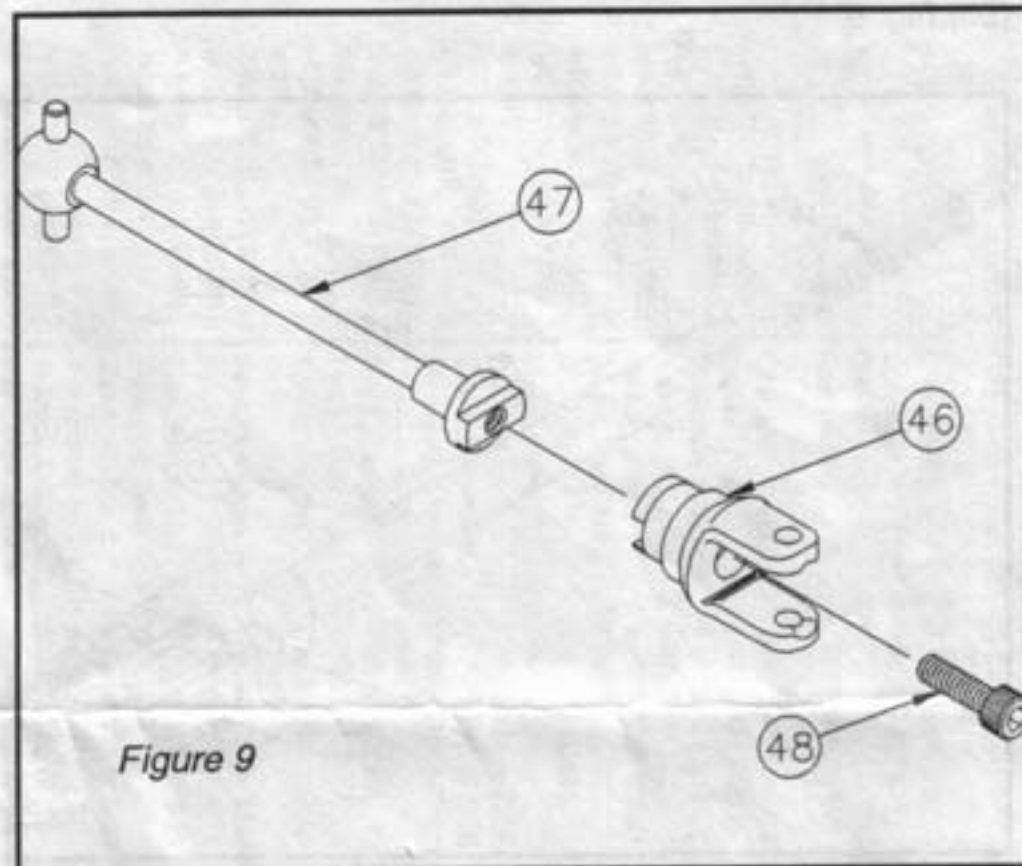

Figure 9
26. Attach an outdrive yoke (46) to the end of each dog bone (47) by lining up the slots and securing with a 4-40 x 3/8" screw (48). A small amount of thread lock should be used on the screws to hold them in place. Fig. 9
27. Remove the slider from the rear axle on your vehicle and replace it with the dog bone (47) you just assembled.
28. Now install the "Double X" transmission into your vehicle. Be sure and insert the dog bone (47) on each side, into the outdrive on each side of the transmission. Attach the transmission to the chassis with the same screws that held the stock transmission in place. Place the 4-40 x 1 3/4" screw (6) through the rear bulkhead and the transmission, and into the motor plate. (\* Note: If you had to grind the slot in your chassis, make sure that the slot is deep enough, and the transmission is all the way down and straight).